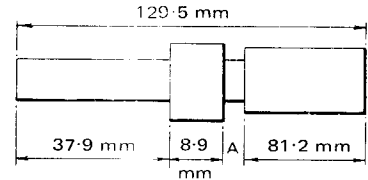

Fig. 1.27
- Find the dimension  $A$  shown in Fig. 1.27.